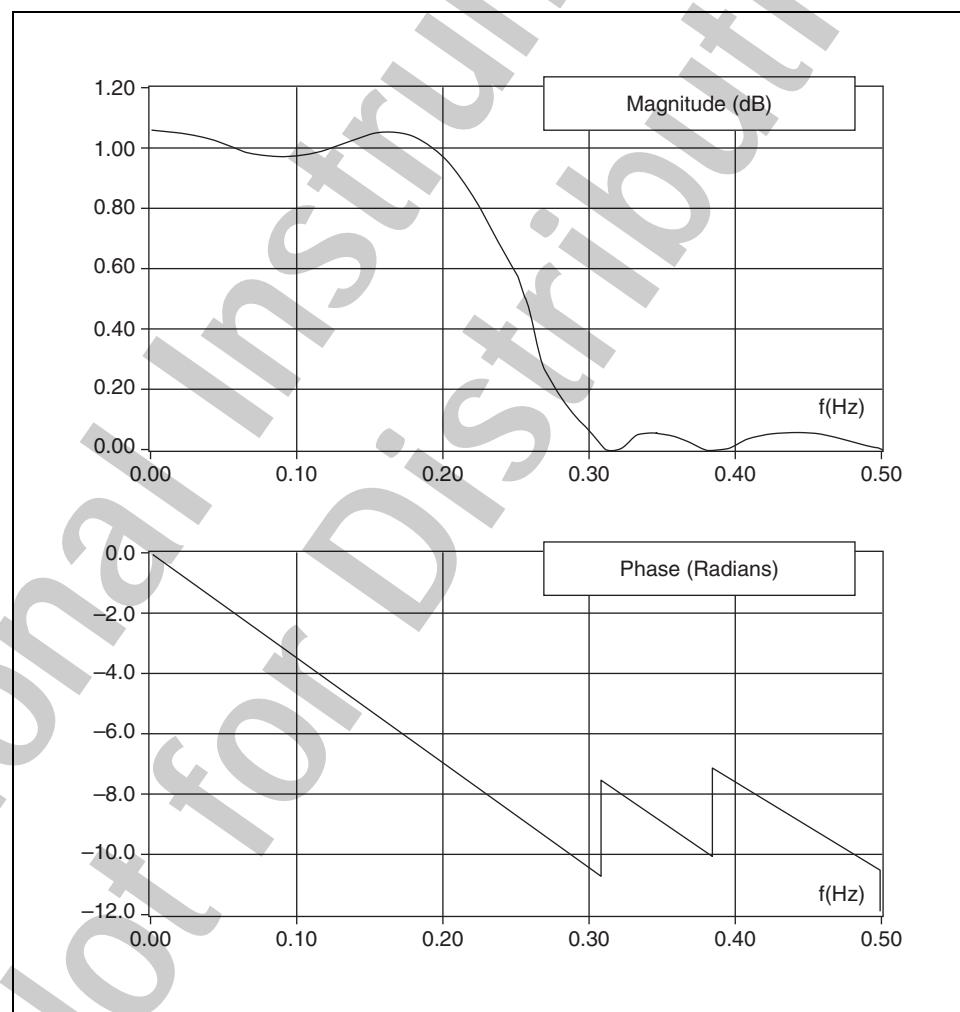

Figure B-37. Typical Magnitude and Phase Response of FIR Filters
- Figure B-37 plots a typical magnitude and phase response of FIR filters versus normalized frequency. The discontinuities in the phase response arise from the discontinuities introduced when you compute the magnitude response using the absolute value. The discontinuities in phase are on the order of π . The phase, however, is clearly linear.